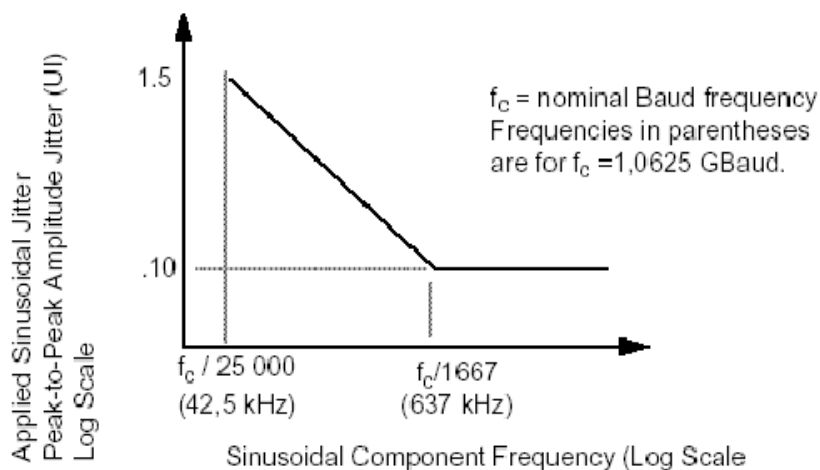

Figure 5. Mask for Sinusoidal Component of Fibre Channel Jitter Tolerance
In the Fibre Channel standard, the receiver should be capable of tolerating 0.68 UI of jitter, where 0.37 UI is DJ, 0.21 UI is Random Jitter (RJ), and 0.1 UI is Sinusoidal Jitter (SJ), while still meeting a BER of 10^{-12} at the Fibre Channel operating frequency (1.0625 Gigabits/s). The mask for the sinusoidal component of the jitter tolerance is shown in *Figure 5* (source: FC-MJSQ document). Characterization was performed on HOTLink II devices to meet and exceed these requirements.